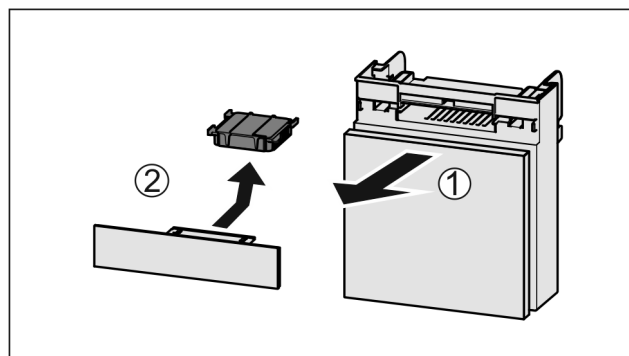

Fig. 161
- Pull out the compartment Fig. 161 (1).
- ▶ Remove the carbon filter *Fig. 161 (2)*.